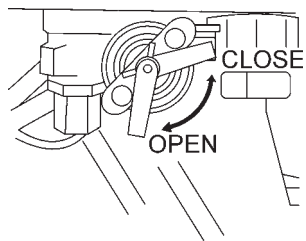

Figure 9. Open Fuel Cock
1. Open the fuel cock (Figure 9).
- Close the fuel cock (Figure 9).